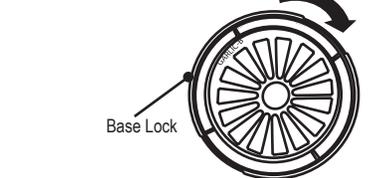

Figure 3
3. Align the grooves in the Base Lock (white) with the notches in the Base. Twist the Base Lock clockwise in the Base until the groove and notch click into place. (Figure 3).